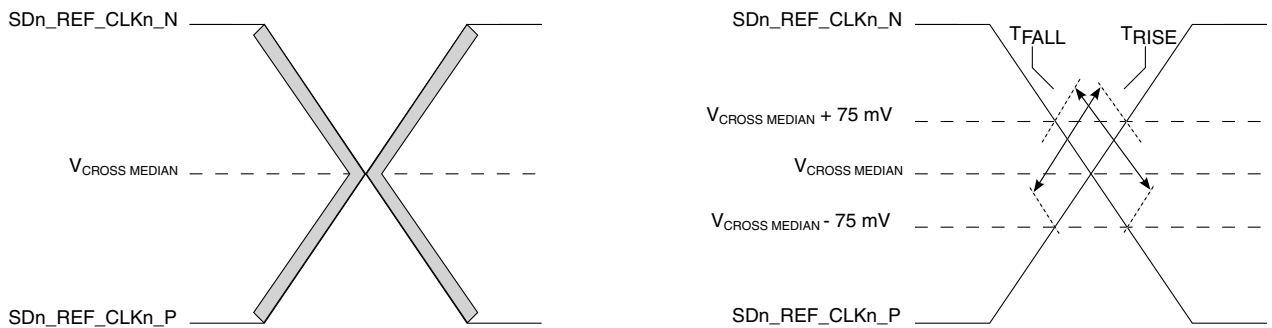

Figure 84. Single-ended measurement points for rise and fall time matching
11. Matching applies to rising edge for SD _n _REF_CLK _n _P and falling edge rate for SD _n _REF_CLK _n _N. It is measured using ±75 mV window centered on the median cross point where SD _n _REF_CLK _n _P rising meets SD _n _REF_CLK _n _N falling. The median cross point is used to calculate the voltage thresholds that the oscilloscope uses for the edge rate calculations. The rise edge rate of SD _n _REF_CLK _n _P must be compared to the fall edge rate of SD _n _REF_CLK _n _N, the maximum allowed difference should not exceed 20% of the slowest edge rate. See Figure 84 .